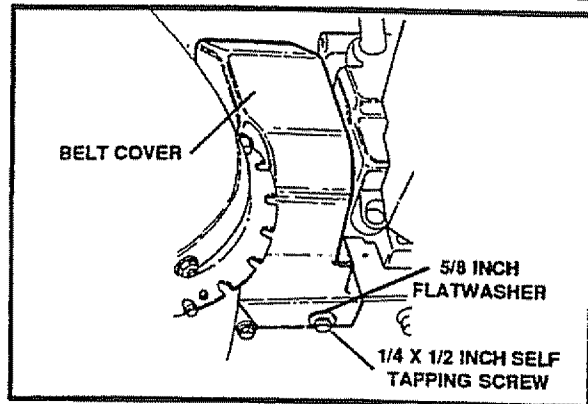

FIG. 26
- Remove the belt cover (See Fig. 26).